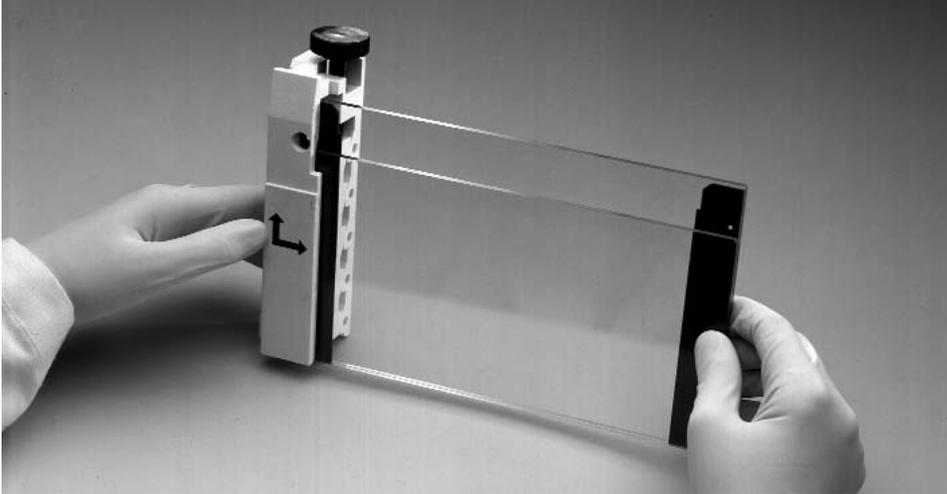

Fig. 4.6. Attaching the clamps to the glass plate assembly.
4. Grasp the gel sandwich firmly. Guide the left and right clamps onto the sandwich so that the long and short plates fit the appropriate notches in the clamp (Figure 4.6). Tighten the screws enough to hold the plates in place.